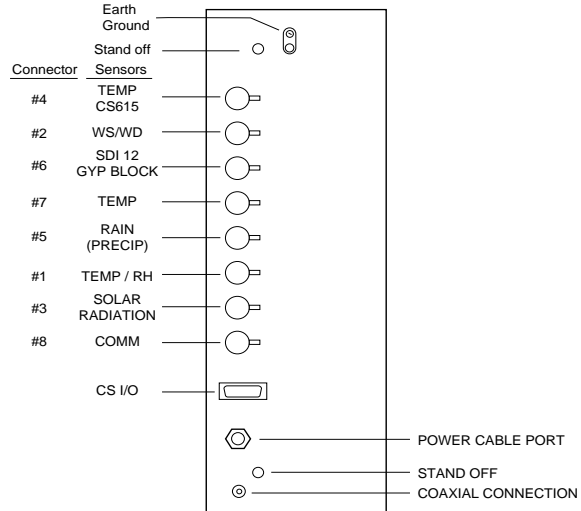

FIGURE 3.2-1. Position of Sensor Bulkhead Connectors
- 2) Remove the protective connector cover from the back of the TLX106 Enclosure by removing the two phillips head screws. Sensors connect to one of seven labeled bulkhead connectors as shown in Figure 3.2-1.